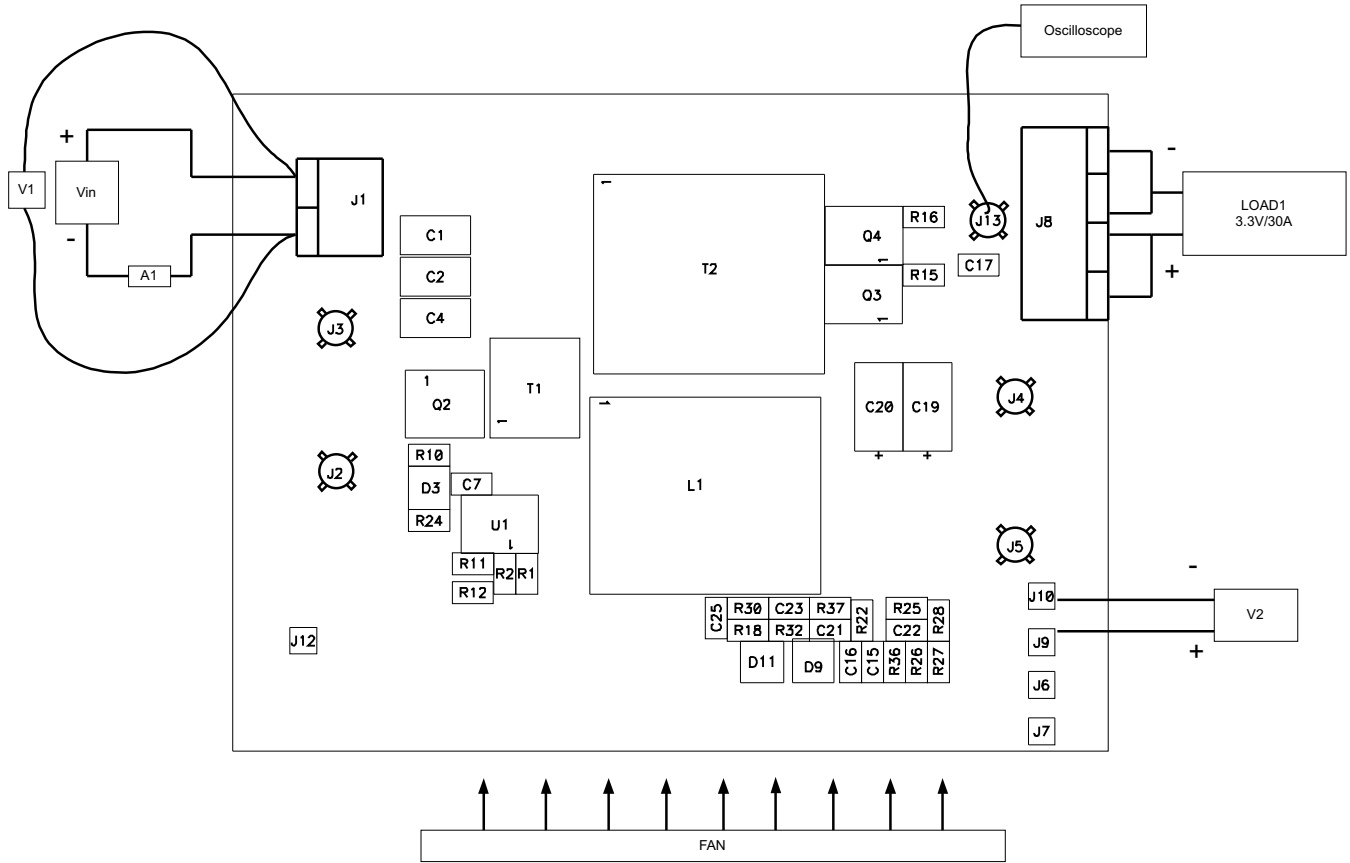

Figure 2. Recommended EVM Test Configuration
Figure 2 shows the basic test setup recommended to evaluate the UCC2891EVM-520.
The input voltage is a variable DC source capable of supplying between $0V_{DC}$ and $72V_{DC}$ at no less than $3.5A_{DC}$, and connected to J1 and A1 as shown in Figure 2. For fault protection to the EVM, limiting the source current to no more than $4A_{DC}$ for a 36 V input is a good common practice. A dc ammeter, A1 is also inserted between VIN and J1 as shown in Figure 2.
An oscilloscope probe is connected using scope jack J13 to measure output ripple as shown in Figure 2. Set the scope to be AC coupled, 50 mV/div. amplitude resolution, 2- μ s/div. time resolution and 20-MHz bandwidth limited.
2. Limiting the source current from VIN to 3.5-A maximum prior to connecting the DC-input source, VIN, is advisable. Make sure VIN is initially set to 0 V and connected to J1 as shown in Figure 2.
3. Connect the ammeter A1 (0A to10A range) between VIN and J1 as shown in Figure 2.
4. Connect voltmeter (can optionally use voltmeter from VIN source if available), V1 across VIN as shown in Figure 2.
5. Connect LOAD1 to J8 as shown in Figure 2. Set LOAD1 to constant-current mode to sink 0 A_{DC} before VIN is applied.
6. Connect voltmeter, V2 across J9 and J10 as shown in Figure 2.
7. Connect an Oscilloscope to J13 as shown in Figure 2.